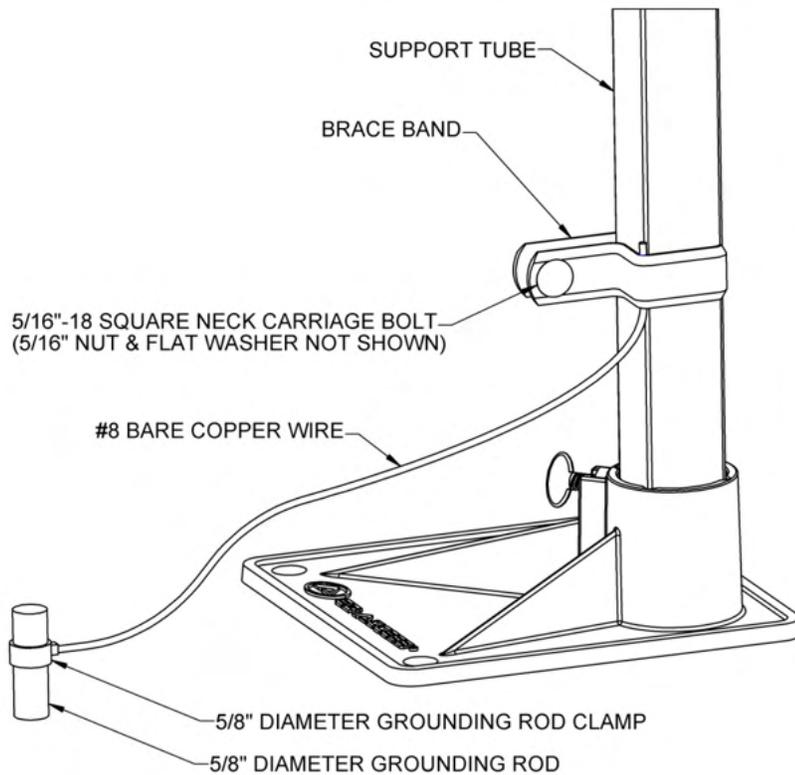

FIG. 7.9
- 7.6.2. Install the brace band around support tube. Place the #8 copper wire under the brace band on the corner as shown (FIG. 7.9).